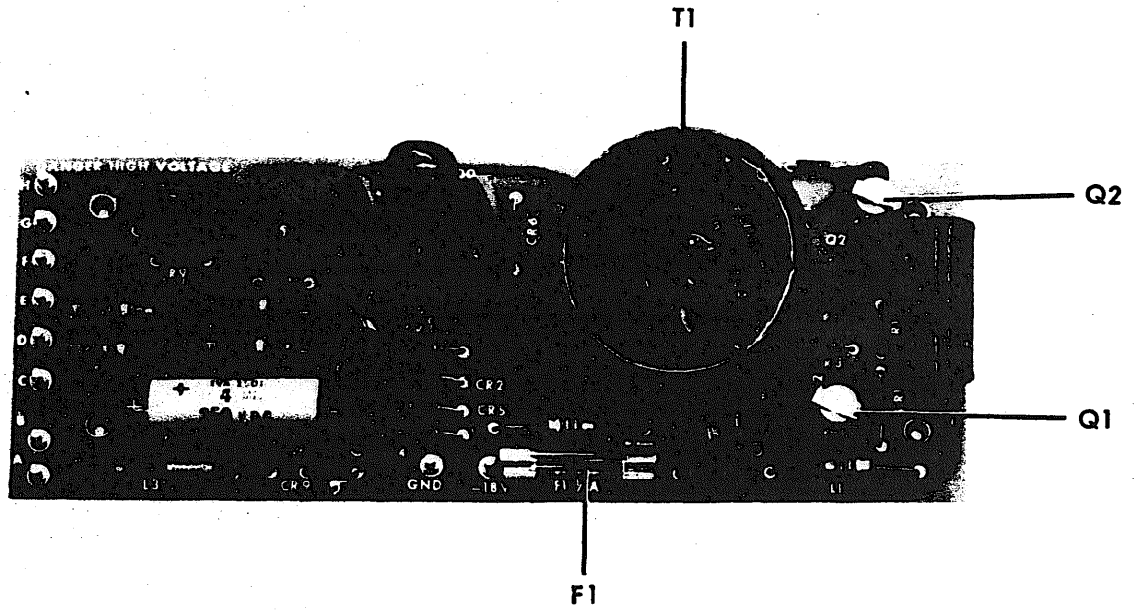

Figure 3-2. Module A13, High Voltage Power Supply CO2302300
12. High Voltage Power Supply, Module A13 (Figure 3-2)